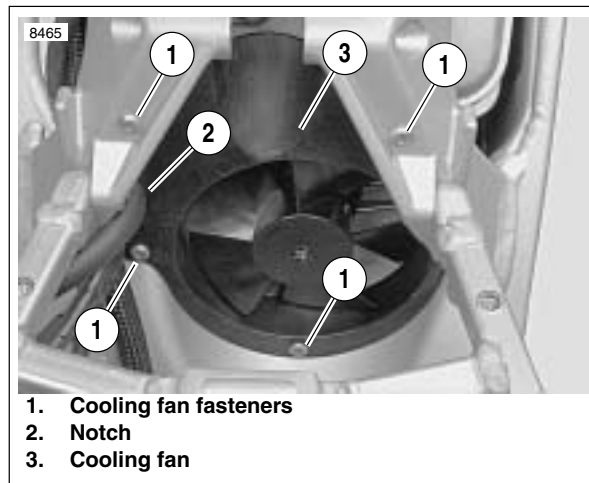

Figure 4-84. Cooling Fan
4. See Figure 4-84. Remove cooling fan fasteners (1).